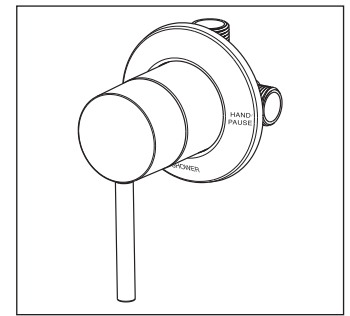
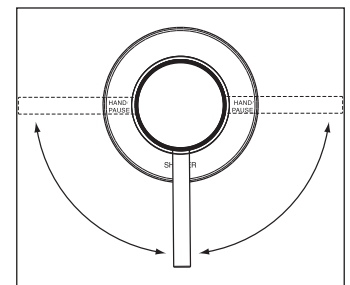
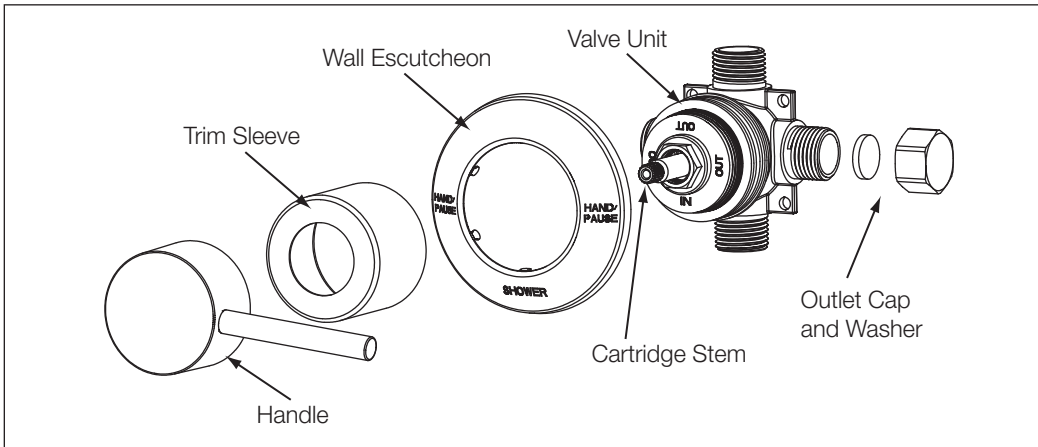

Figure 1
Figure 2
Figure 4
The 763-CP (see Figure 1) is a three-position valve. Positioning the handle in the vertical, center position sends water to the shower head. To transfer water to the hand shower, rotate the handle 90 degrees clockwise or counter-clockwise, depending on the position of the hand shower. If the piping to the hand shower is connected to the right of the transfer valve, the left-hand outlet of the transfer valve must be capped and sealed to prevent water leakage. If connecting the hand shower to the left-hand side of the valve, be sure to cap the right-hand outlet. In either case, only one position on the valve will direct water to the hand shower; the other position may be used as a "pause" position for soaping or shampooing. Figure 2 illustrates the handle positions. Figure 4 shows the valve outlets, cap, and washer.
2. Remove the trim sleeve from the trim pack and slide it over the valve unit, seating it flush to the valve (see Figure 4).
3. Remove the wall escutcheon from the trim pack and slide it over the trim sleeve. Rotate the escutcheon plate so that the text is upright, readable and positioned as shown in Figure 4.
7. The handle is designed to rotate at 90 degrees in a clockwise and counter-clockwise movement. Rotate the handle in the counter-clockwise direction to verify that the handle stops near the position of the “HAND/PAUSE” on the right of the escutcheon plate. Then rotate the handle in the clockwise direction to verify that the handle stops at the “HAND/PAUSE” location on the left of the escutcheon plate (see Figure 2).